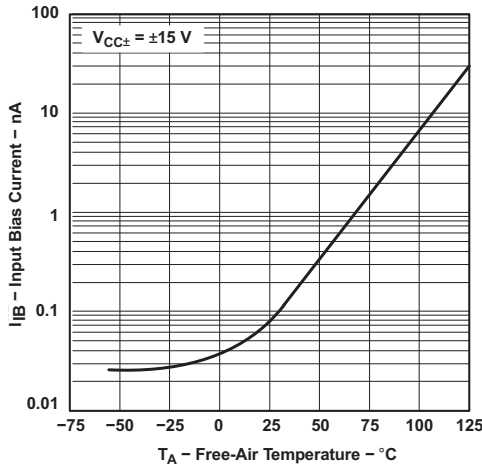

Figure 1. Input Bias Current vs Free-Air Temperature
- (1) All characteristics are measured under open-loop conditions with zero common-mode voltage, unless otherwise specified.
- (2)  $T_A = -40^\circ\text{C}$  to  $85^\circ\text{C}$ .
- (3) Input bias currents of an FET-input operational amplifier are normal junction reverse currents, which are temperature sensitive, as shown in Figure 1. Pulse techniques must be used that maintain the junction temperature as close to the ambient temperature as possible.
- (1) Input bias currents of an FET-input operational amplifier are normal junction reverse currents, which are temperature sensitive, as shown in Figure 1. Pulse techniques that maintain the junction temperature as close to the ambient temperature as possible must be used.
- (2) All characteristics are measured under open-loop conditions with zero common-mode voltage, unless otherwise specified. Full range is  $T_A = -55^\circ\text{C}$  to  $+125^\circ\text{C}$ .